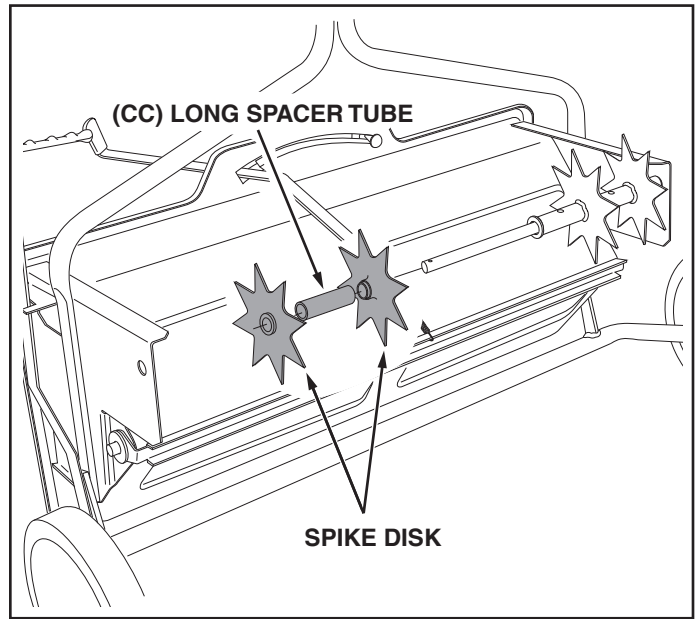

FIGURE 15
34. Place two spike disks, separated by a long spacer tube, onto the shaft. Fit the long spacer tube onto the ends of the flanged bearings in the disks. See figure 15.